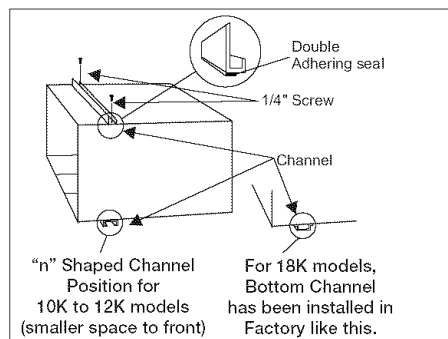

Fig. 3
A. "L" Shaped Top Channel: Stick the double adhering seal to the "L" shaped top channel, and then install the "L" shaped top channel to the cabinet as shown in (Fig. 3) using (5) 1/4" screws.
B. "n" Shaped Bottom Channel installed as shown in (Fig. 3) using (4) 1/4" screws. On 10K models, install screws from inside the cabinet.